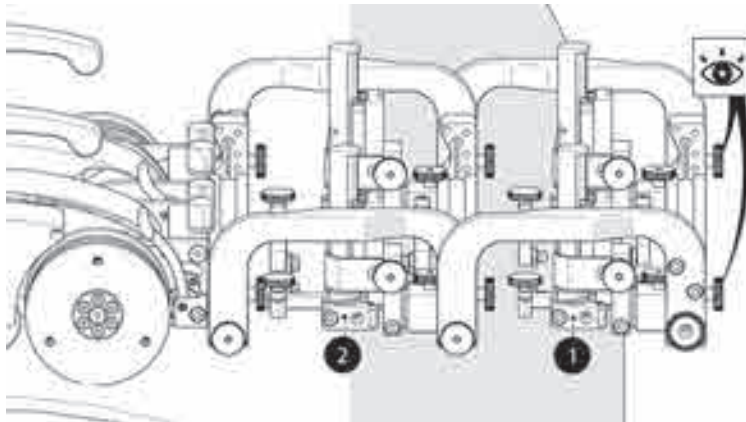

Figure 4-109 Position primary and secondary probe holders
2. Affix the probe holders, with attached wedges, to the probe holder rack. Place the secondary probe holder at the front of the rack (1) and place the primary probe holders at the rear (2) (see Figure 4-109 on page 173).